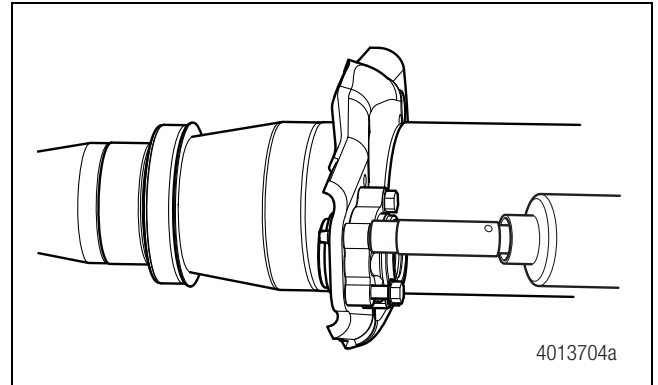
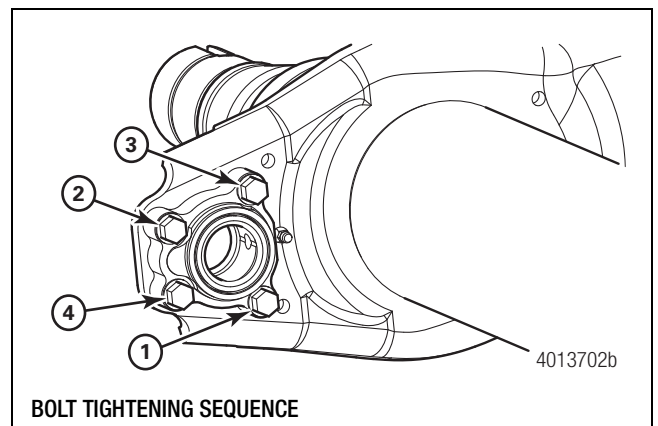

Figure 11.54
Figure 11.55
16. Tighten the bolts to 25-35 lb-ft (34-48 N•m) using a staggered pattern to ensure the housing draws in evenly. Figure 11.54 and Figure 11.55.